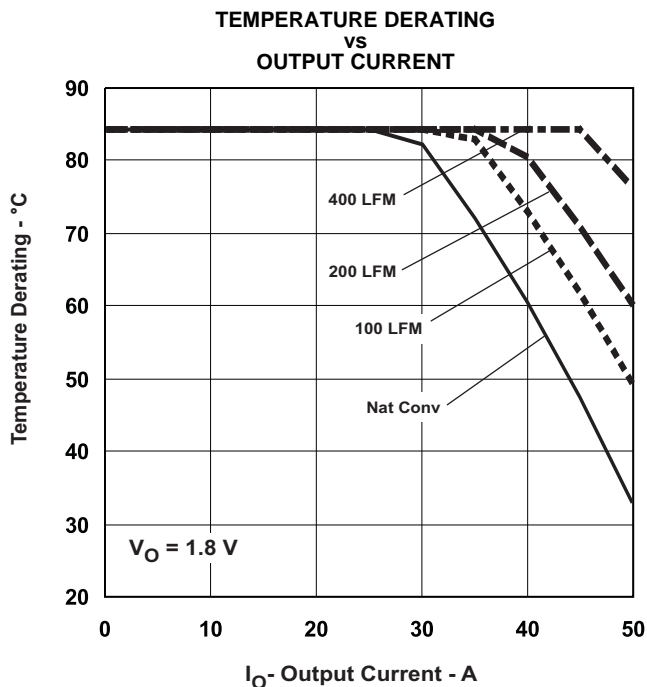

Figure 3.
- (2) The temperature derating curves represent the conditions at which internal components are at or below the manufacturer's maximum operating temperatures. Derating limits apply to modules soldered directly to a 4-in. x 4-in., double-sided, 4-layer PCB with 1-oz. copper. See the mechanical specification for more information. Applies to Figure 3 and Figure 4.